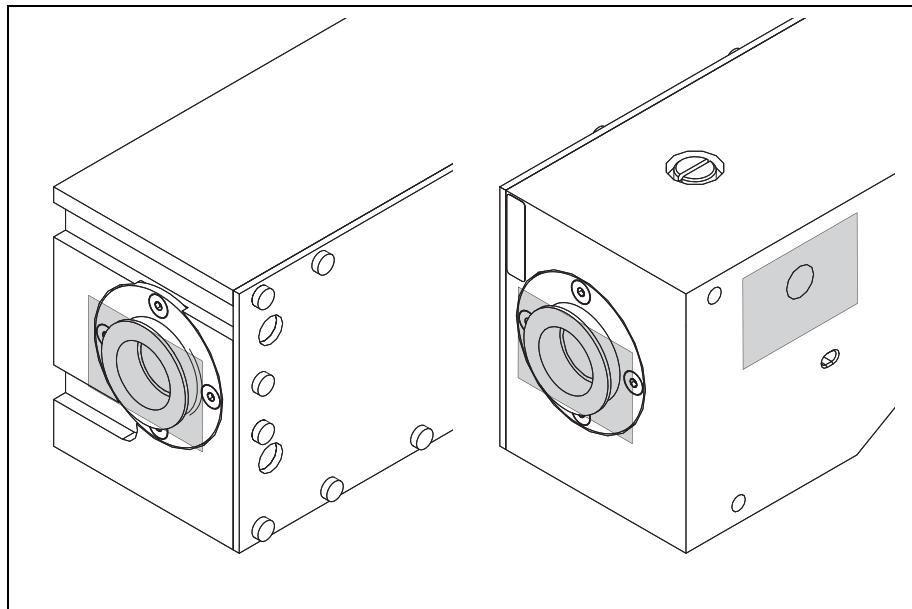

Figure 3.8 External modulator – 3
- 7. Cover the beam inlet and beam outlet as well as the diffuser lens of the external modulator (see figure 3.8) with adhesive tape to prevent contamination.